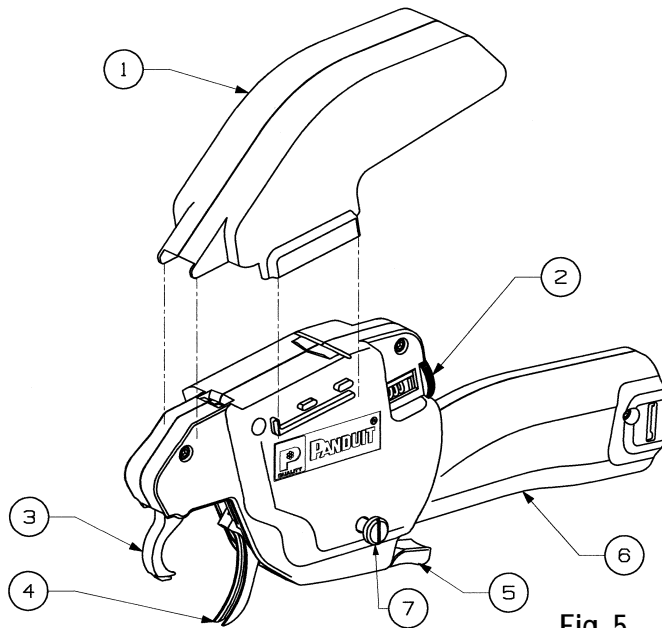

Fig. 5
4. When the jaws are positioned at the preferred location for a cable tie, close the rear jaw by lifting the trigger (See Figure 5 on Page 15). When the trigger is lifted to the highest point, the tool cycle will start. Hold the trigger momentarily for proper cycling of the tool. The cable tie will be applied, tensioned and cut off.
5. At the completion of the cycle, release the trigger to open the rear jaw (See Figure 5 on Page 15). Relocate the tool at the next desired cable tie location and repeat as required.
The PAT1M and PAT1.5M Tools are provided with a tip collector to collect a maximum of 180 cable tie cutoff tips (See Figure 5 on Page 15). The tip collector must be emptied before it reaches its capacity.